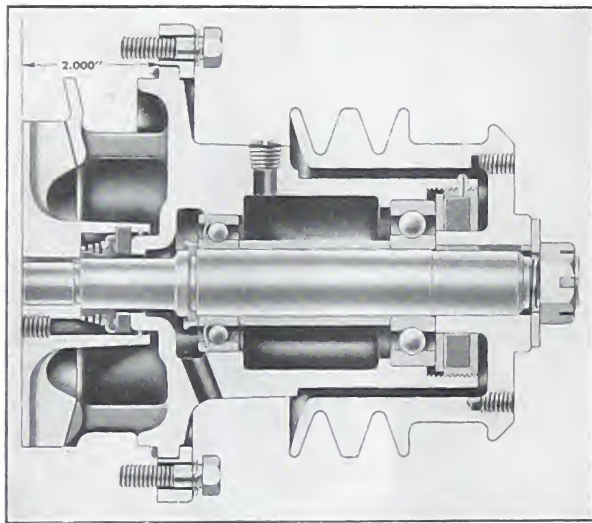

Fig. 8-8. Cross section of water pump
screw the retaining nut down tight, lining up lock ring hole and inserting lock ring in place. (Fig. 8-8).
8. While resting the drive pulley on a small steel disc, press the impeller on the shaft to a distance of 2.000 from the inside surface of the pump body mounting flange to the outer face of the impeller. See Fig. 8-8.